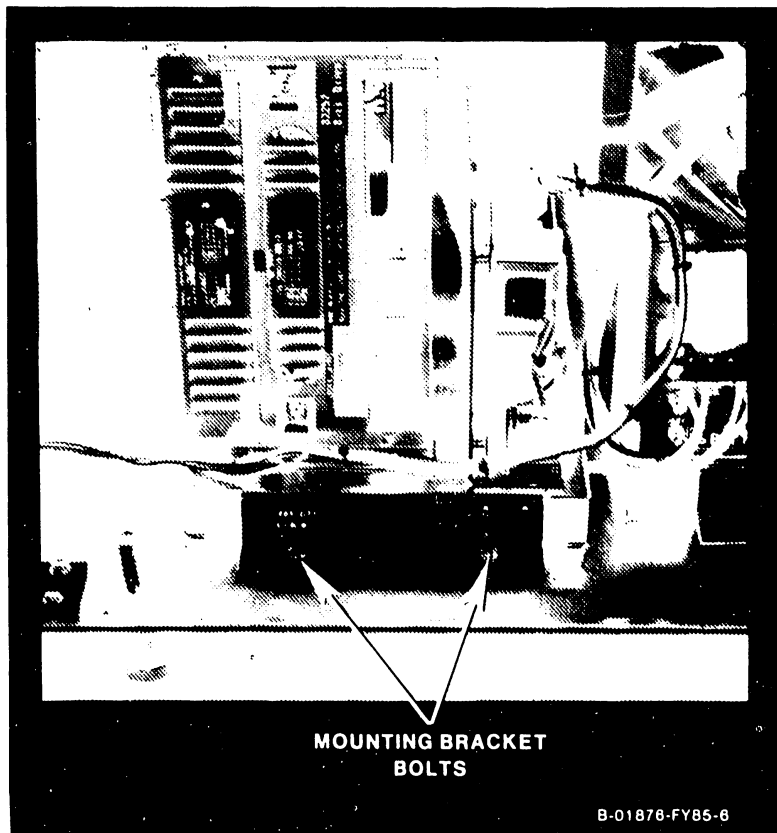

Figure 5-36. NEC Disk Drive Removal
4. Remove the two screws that secure the drive bracket to the baseplate. (Refer to figure 5-36.)